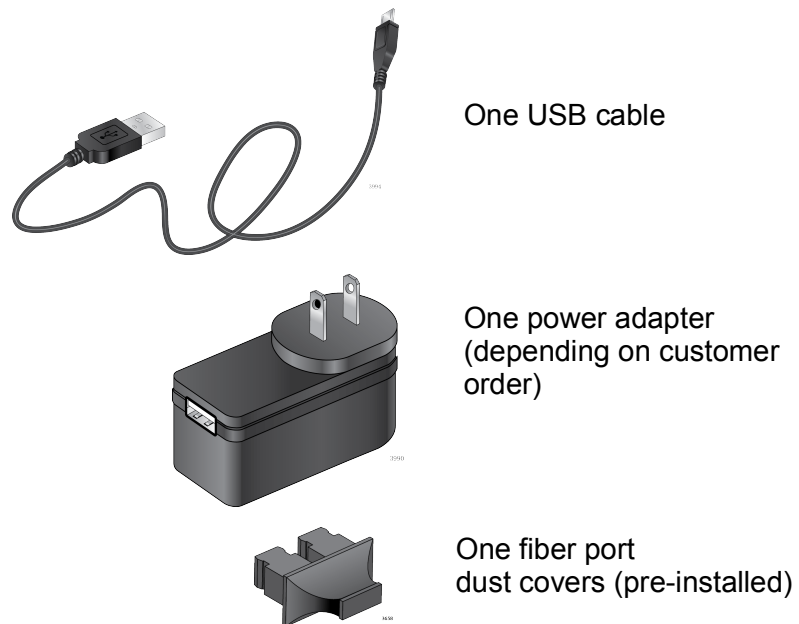

Figure 24. AT-DMC1000/SC and AT-DMC100/SC Shipping Package Contents
- ❑ Figure 24 shows shipping container items for the AT-DMC1000/SC and AT-DMC100/SC.